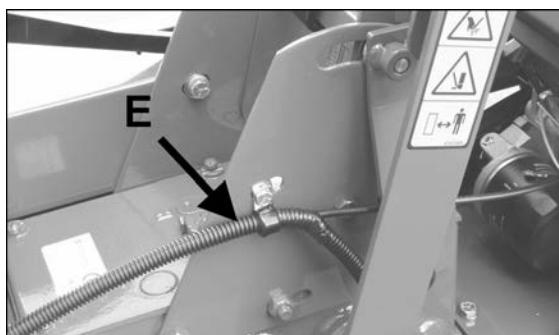
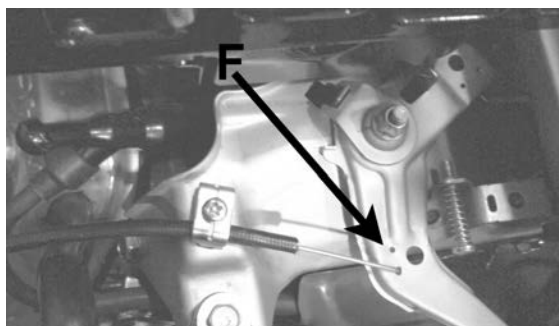

FIGURE 5
FIGURE 6
8. Remove the air filter cover, air filter, and air filter base. Move cable clamp to rear position. Route the convoluted tubing **E** along the handle, Connect the Z-bend **F** to the throttle lever on the engine. (Figure 6) Install tubing in clamp on side of gear case. (Figure 5)